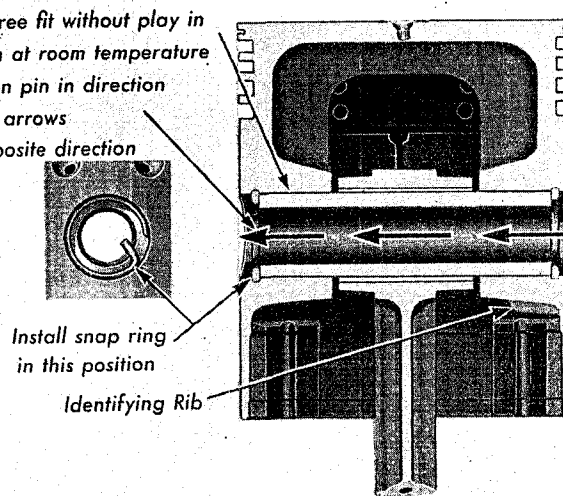

Fig. 11 Cross Section of Piston, Series 37-50, 60, 65, 70 and 75
3. Push piston pin out of piston by hand from the raised rib side of the piston hole boss as shown in Plate 29, Fig. 11.
3. Push the pin into the piston by hand from the side opposite the boss with the raised rib. See Plate 29, Fig. 11.